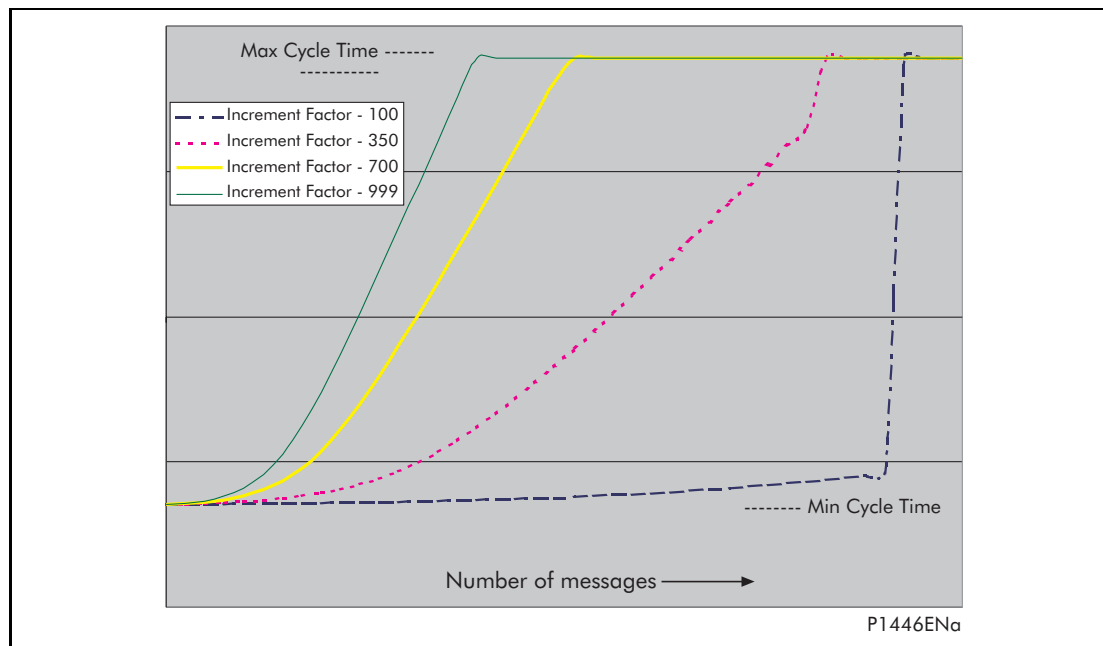

Figure 12: GOOSE message transmission rates
The Increment determines the rate at which the message 'steps-up' from min. cycle time to max. cycle time, as shown in Figure 12.
- The increment value should be chosen such that it is as small as possible but different for each device sharing a common (or similar) minimum cycle time value. This will provide a degree of time differentiation as retransmissions occur. Small increment values cause the retransmission delay to slowly increase to the maximum value (increasing dependability), whereas a large increment value will cause it to rapidly increase (increasing reliability). See Figure 12.